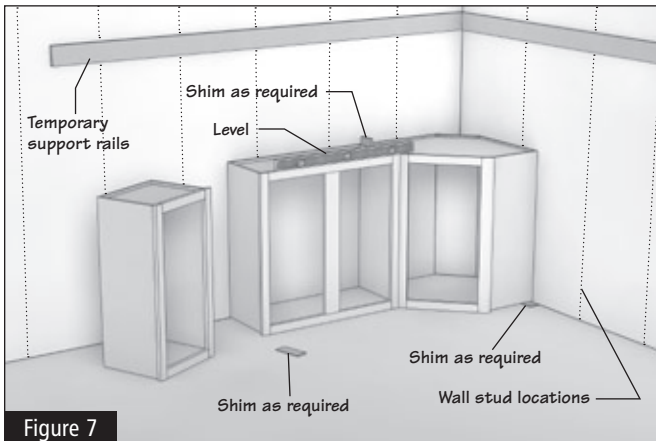

Figure 7
2.4 Using a level, make sure each cabinet is level and each face frame (front of the cabinet) is flush with the adjacent cabinet. A pry bar and shims can be used temporarily to get everything level and plumb. (Figure 7)